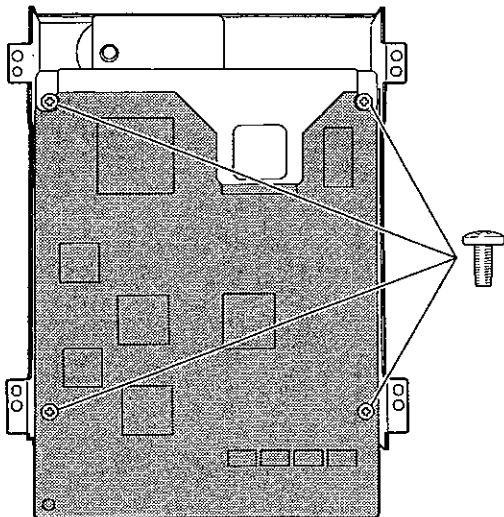

Fig. 2.6 Bottom View
- (3) Remove the four screws and detach the Main P.C.B. Ass'y from the DVD Mechanism Block. See Fig. 2.6.